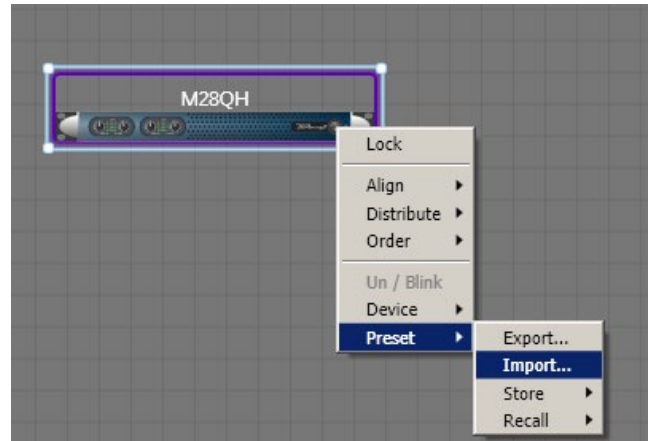

FIGURE 20: Left click to select (the blue rectangle appears) and right click for import.
3. If you already have a device preset (.pam) you can import it by right clicking on the device (ref. FIGURE 20).